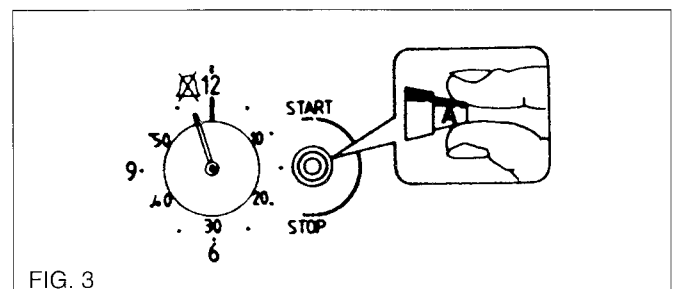

FIG. 3
Use the control knob (A). Without pushing it in, turn the knob in either direction until the hand for the minute minder points to \otimes . Fig. 3.
To set, press the minute minder button () and the digital display will read 0.00 as Fig. 3.